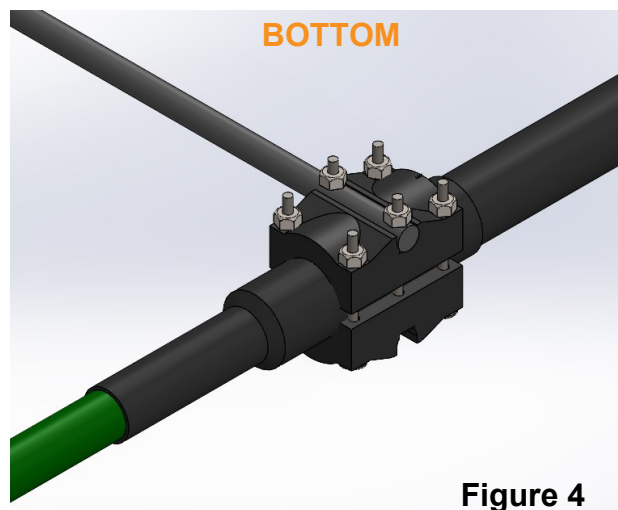
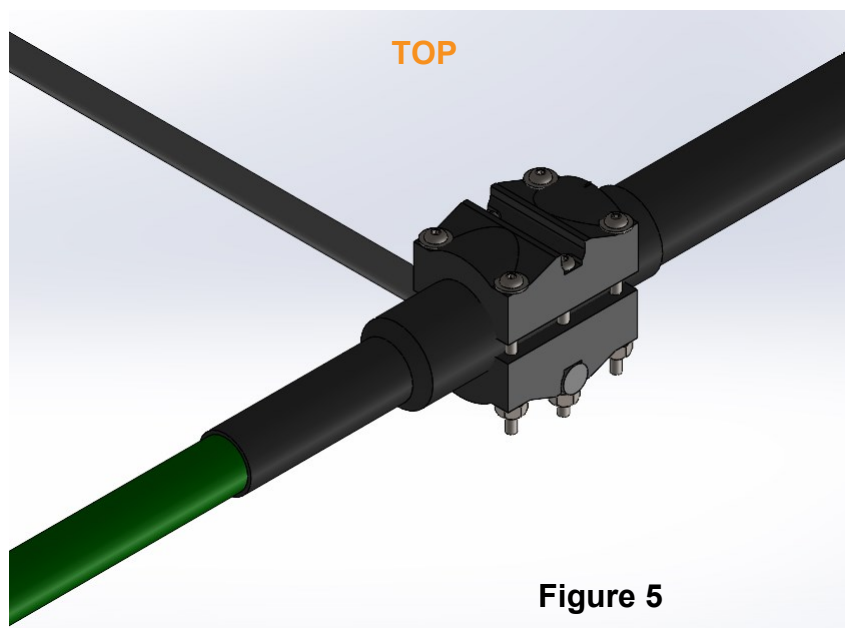

Figure 4
Figure 5
17. Mount the black fiberglass sweep spreaders (PN 10-1503-21) to the sweep couplers. There is a concave mounting area on each side of the plastic couplers. Position the fiberglass spreader so that the holes align with the clam shell couplers as shown in **figure 4**. When installing the fiberglass spreader, you will want the spreader to be underneath the plastic coupler as shown in **figure 5**. The spreaders will be longer than the couplers on each side of the loop. This is done on purpose to ensure plenty of fiberglass material is on each side of the screw.
18. Insert 2qty 6-32 x 2" socket head screw (PN 60-0186) through each of the coupler halves and the fiberglass rod. This screw must be placed so that the Nylock nut (PN 60-0014) is resting on the fiberglass material and the screw head are resting inside the concave groove on the top of the sweep coupler. Refer to **figures 4** and **5** for detail. The screws are longer than necessary so that you can get the nut on in the initial stages.